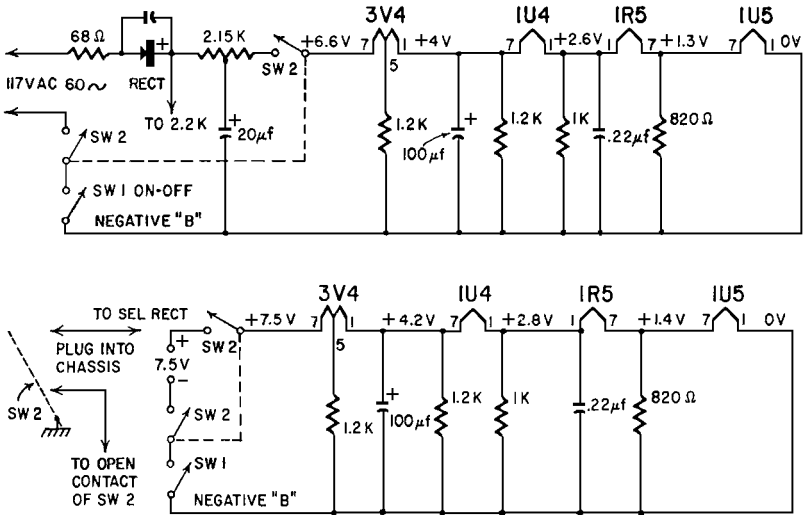

Fig. T-2. Power supply and filament circuit of three-way radio. The upper figure shows ac operation, the lower battery operation.
**Service:** Generally, this condition is due to excessive filament current. First, check to ascertain if the receiver has shunt resistors in the filament circuit. See Fig. T-2. If none are found, about the only thing to do is insert filament shunts, provided the owner is willing to pay the cost. Correct values must be worked out.